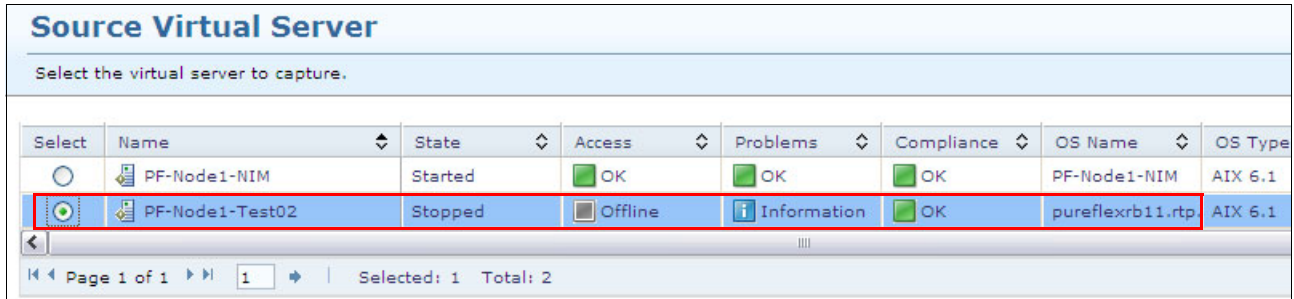

Figure 10-119 Selecting a source virtual server
3. Select a source virtual server as shown in Figure 10-119. Storwize V7000 runs a `flashcopy` command for the LUN on a virtual server that you select.